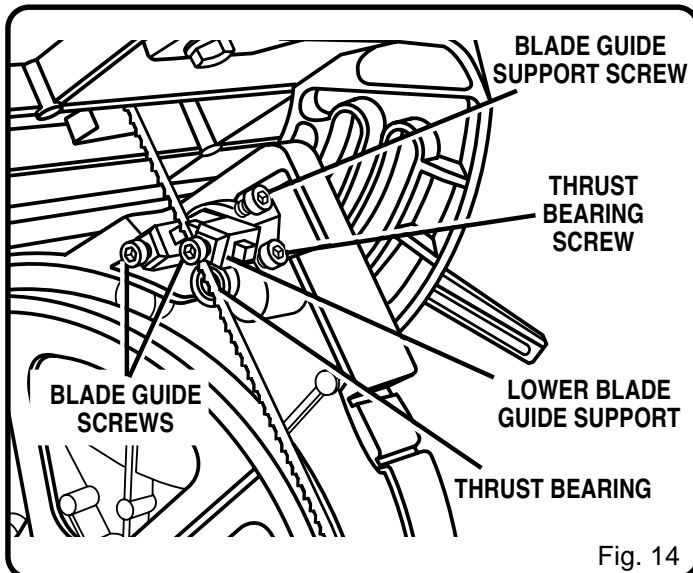

Fig. 14
Note: The lower blade guide support screw is the top screw located on the right of the saw housing under the table. See Figure 14.
- Repeat this procedure on the lower blade guides located under the saw table. See Figure 14.